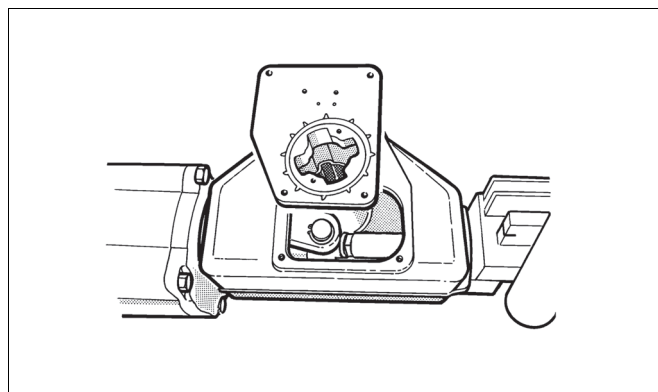
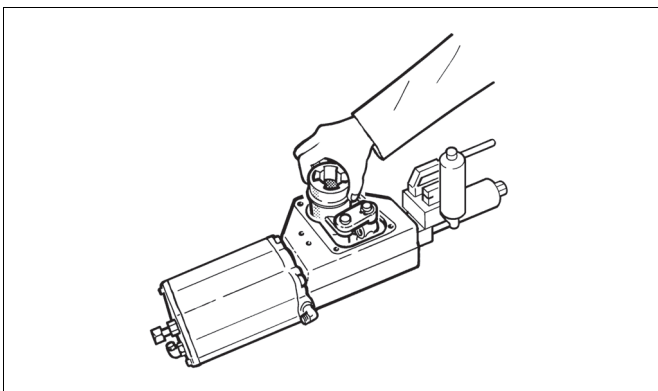

Fig. 20 Mounting the cover on the housing
Fig. 21 Removing the linkage from the housing
- Apply sealant, e.g. Loctite 225, to hydraulic cylinder piston rod (75) thread and tighten this through bearing unit (5) to pneumatic cylinder piston rod (10) to the torque indicated in Table 3.
- Fasten the housing cover temporarily so that the linkage bearings (3) function, but the linkage is still visible, see Fig. 20.
- Turn the lever (3) so that the bearing unit is detached from the piston rod (10). Lift the entire lever system out of the housing, Figure 21.
- Remove the lever bearings (23) and the O-rings (17).
- Install the lever bearings (23) and the O-rings (17).
- Assemble the levers. Place them in the housing, see Figure 21 for the correct position.
- Spread the sealant (e.g. Loctite 573, with sizes B1CH40 up use silicone sealant) on the surfaces between the housing and the cover. Fasten the cover, Fig. 20. See Table 3 for torques.